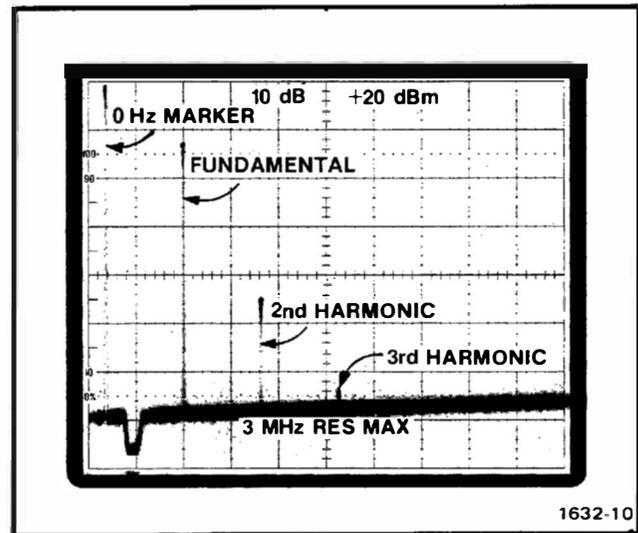

Fig. 3-4. Display of 100 MHz signal and harmonics.
e. Position the zero frequency marker to the left edge of the graticule with the spectrum analyzer position control. A display similar to Fig. 3-4 should be obtained.
d. Position the zero frequency marker to the left edge of the graticule with the spectrum analyzer position control. A display similar to Fig. 3-4 should be obtained.